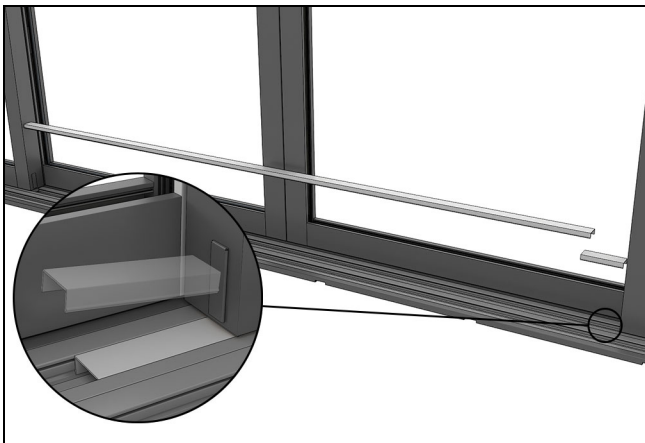

Figure 178 Bi-parting configurations (exterior cover shown)
3. On bi-parting stacked configurations, fit the cover between the two stationary panels. The cover will come in two pieces. Slide the smaller of the two under one panel and pound into place. Fit one end of the longer piece under the other panel, then butt the other end in place and seat the cover with a rubber mallet. See Figure 178.